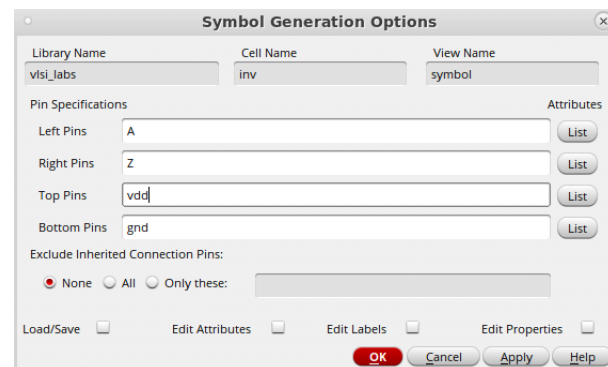

Figure 1.17: Cellview pin location.
- Another window appears (Fig. 1.17) where you can specify the location of the pins on your symbol. It is a good practice to set the inputs on the left, the output on the right and the power supply pins on top or bottom, depending on the direction you chose when you defined your schematic pins, the pins should be correctly placed here.